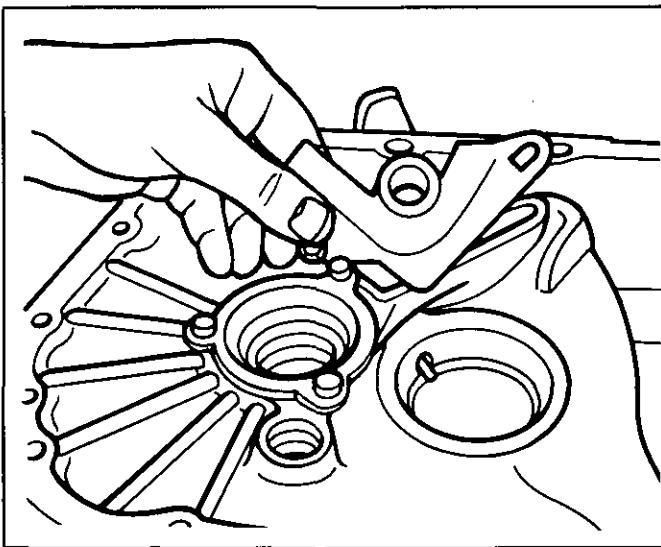

Figure 37 Removing Oil Scoop
5. Remove plastic oil scoop (Figure 37).